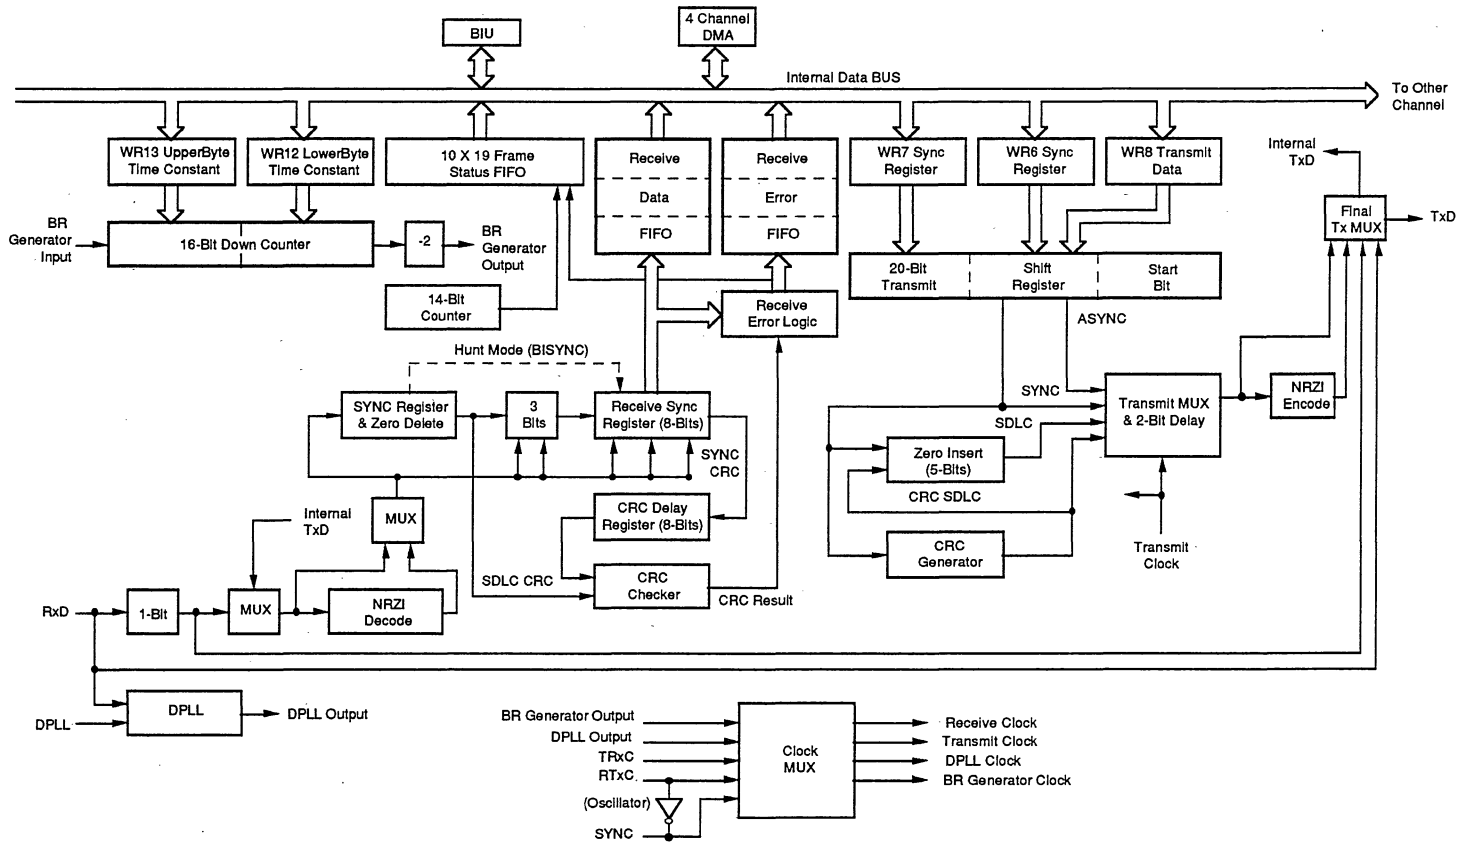

Figure 4. ISCC Data Path
**SCC Cell Data Communications Capabilities.** The ISCC provides two independent full-duplex programmable channels for use in any common asynchronous or synchronous data communications protocol. The ISCC is built from Zilog's industry standard SCC core and is compatible with designs using Zilog's SCC to receive and transmit data (Figure 4).